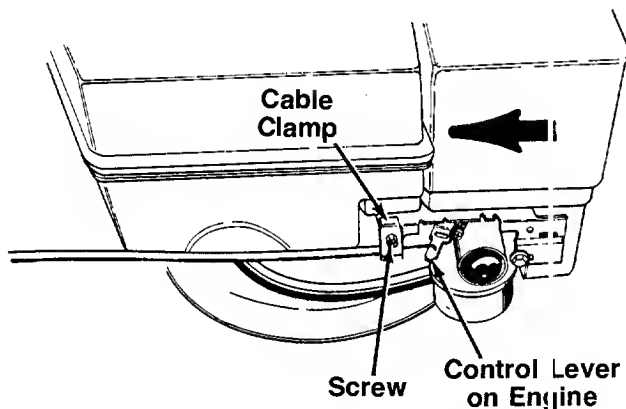

FIGURE 6B.—Model 177R Only
2. The throttle control cable is attached to the upper handle. Route the throttle control cable under the lower handle, inside the handle mounting bracket and beneath the catcher panel. Hook the "Z" end of the throttle control cable into the control lever on the engine as shown in figure 6B.
3. Loosen (do not remove) the screw on the cable clamp shown in figure 6B. Slip the control casing under the clamp (cable must move freely beneath the clamp).